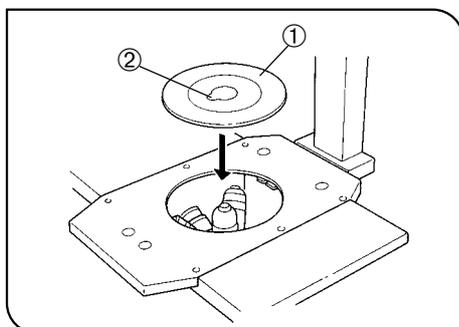

Fig. 9
**6 Mounting the Stage Plate (CK40 Only) (Fig. 9)**